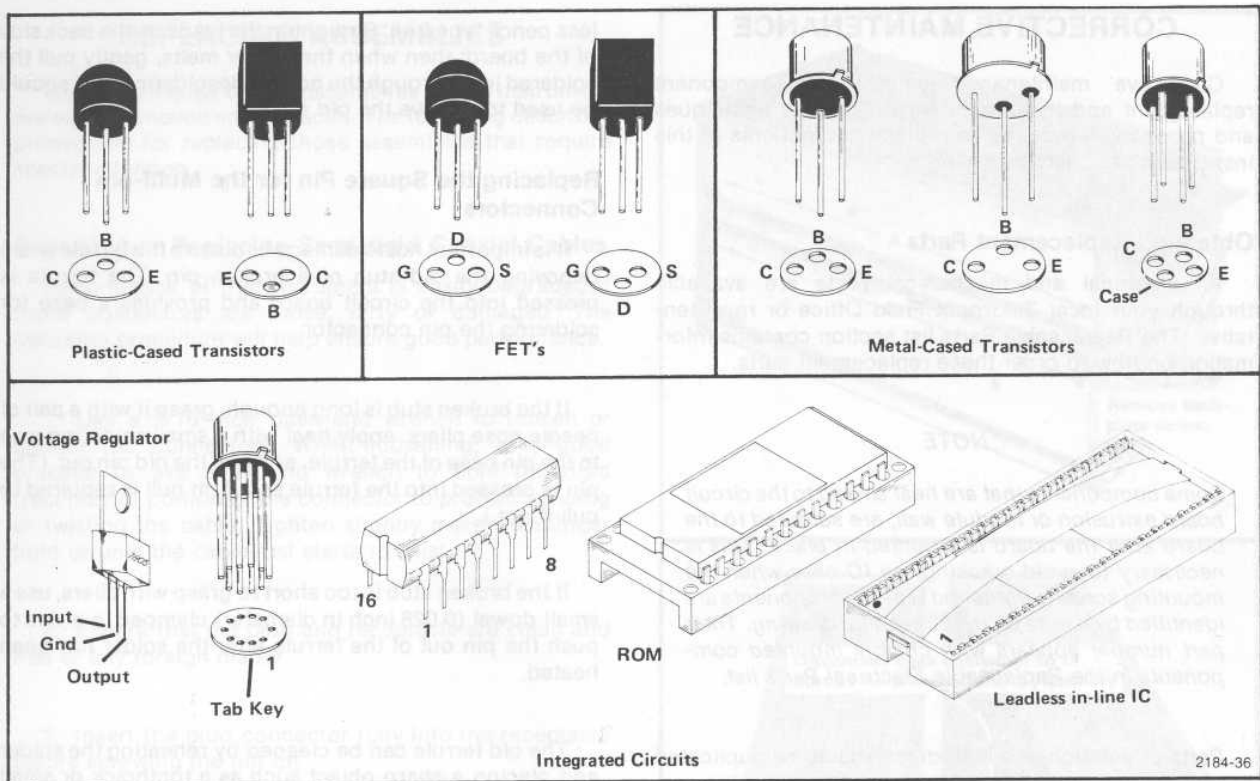

Fig. 5-4. Pin configuration for semiconductor components.
Transistor and Integrated Circuit Pin Configuration. Lead identification for the transistors and MOS FET's is shown in Fig. 5-4. IC pin outs are shown either by table or box on the schematic diagram.
d. Use only good components for substitution and be sure the new component is inserted into the socket properly before soldering. Refer to the manufacturers data sheet or Fig. 5-4 for lead configuration.